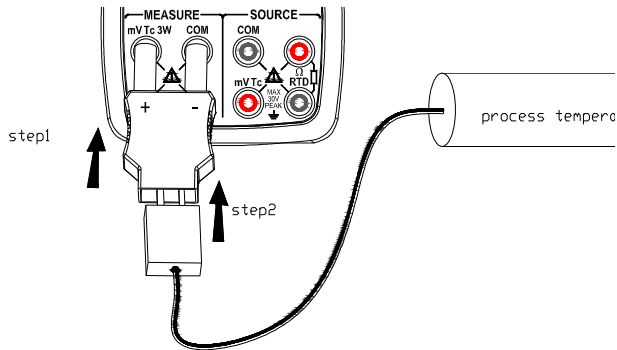

Figure 8 Measuring TC
For thermocouple signal (Figure 8)
Step 3: Connect the thermocouple convertor to the jack under test as shown in Figure 8.The selected function and the measured value and unit shall be shown in the main districts part of the LCD.